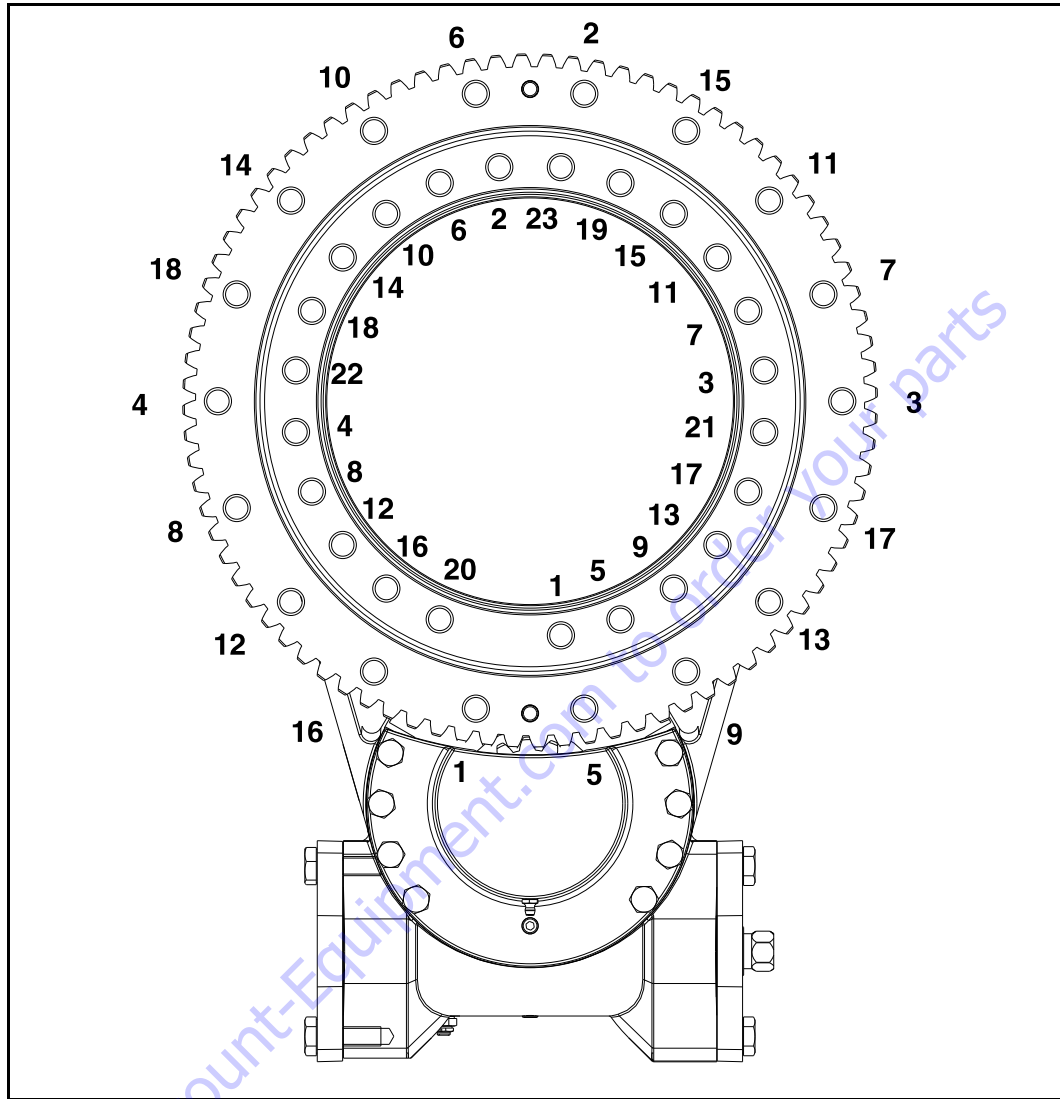

Figure 3-37. Swing Bearing Torque Sequence
2. Coat the bearing bolts with High Strength Threadlocking Compound and secure the bearing assembly to the frame with the bolts. Following the torque sequence diagram in Figure 3-37., Swing Bearing Torque Sequence, tighten the bolts to torque of 206.5 ft. lbs. (280 Nm).
7. Following the torque sequence diagram in Figure 3-37., Swing Bearing Torque Sequence, tighten the bolts to torque of 206.5 ft. lbs. (280 Nm).